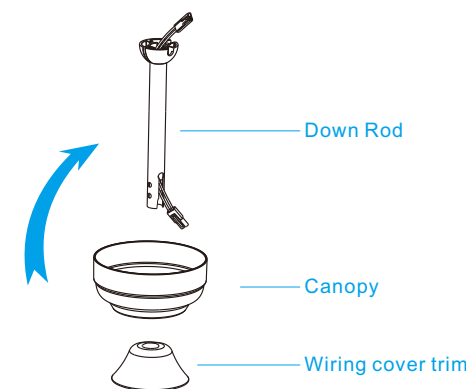

Fig 2.1
- Put down rod as Fig.2.1 install as right picture.(Pls select the suitable length of rod for your ceiling.)